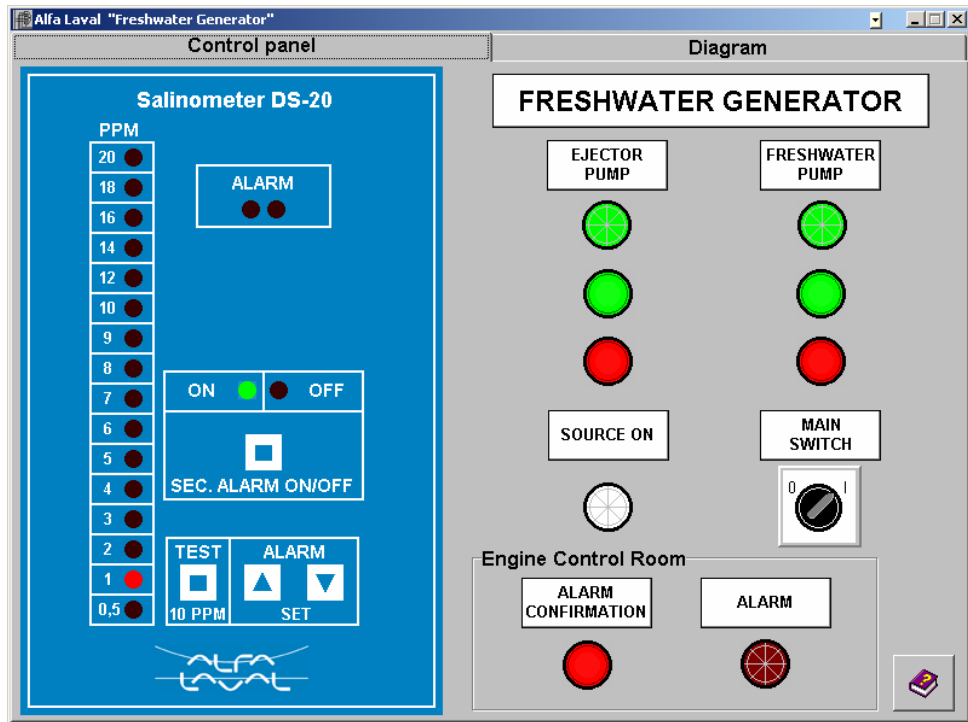

Fig. 1 Freshwater generator plant Control panel
5. Control panel with salinometer and Engine Control Room's alarm block /fig. 1/: